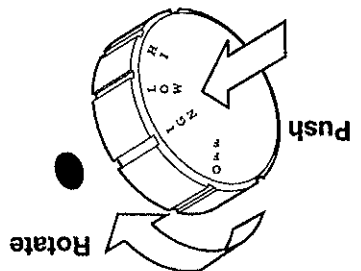

Figure 25: IGN Position
6. From OFF position, push in gas control knob slightly and turn counterclockwise to the IGN position. See *Figure 25*. Push in and hold control knob for 5 seconds.